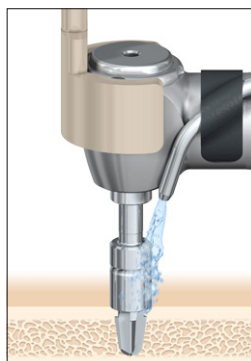

Fig.14: Drilling with Guide drill with spacer removed
7. If there is adequate bone thickness, remove the white spacer on the guide drill and continue drilling to a depth of 4 mm. (Fig. 14).